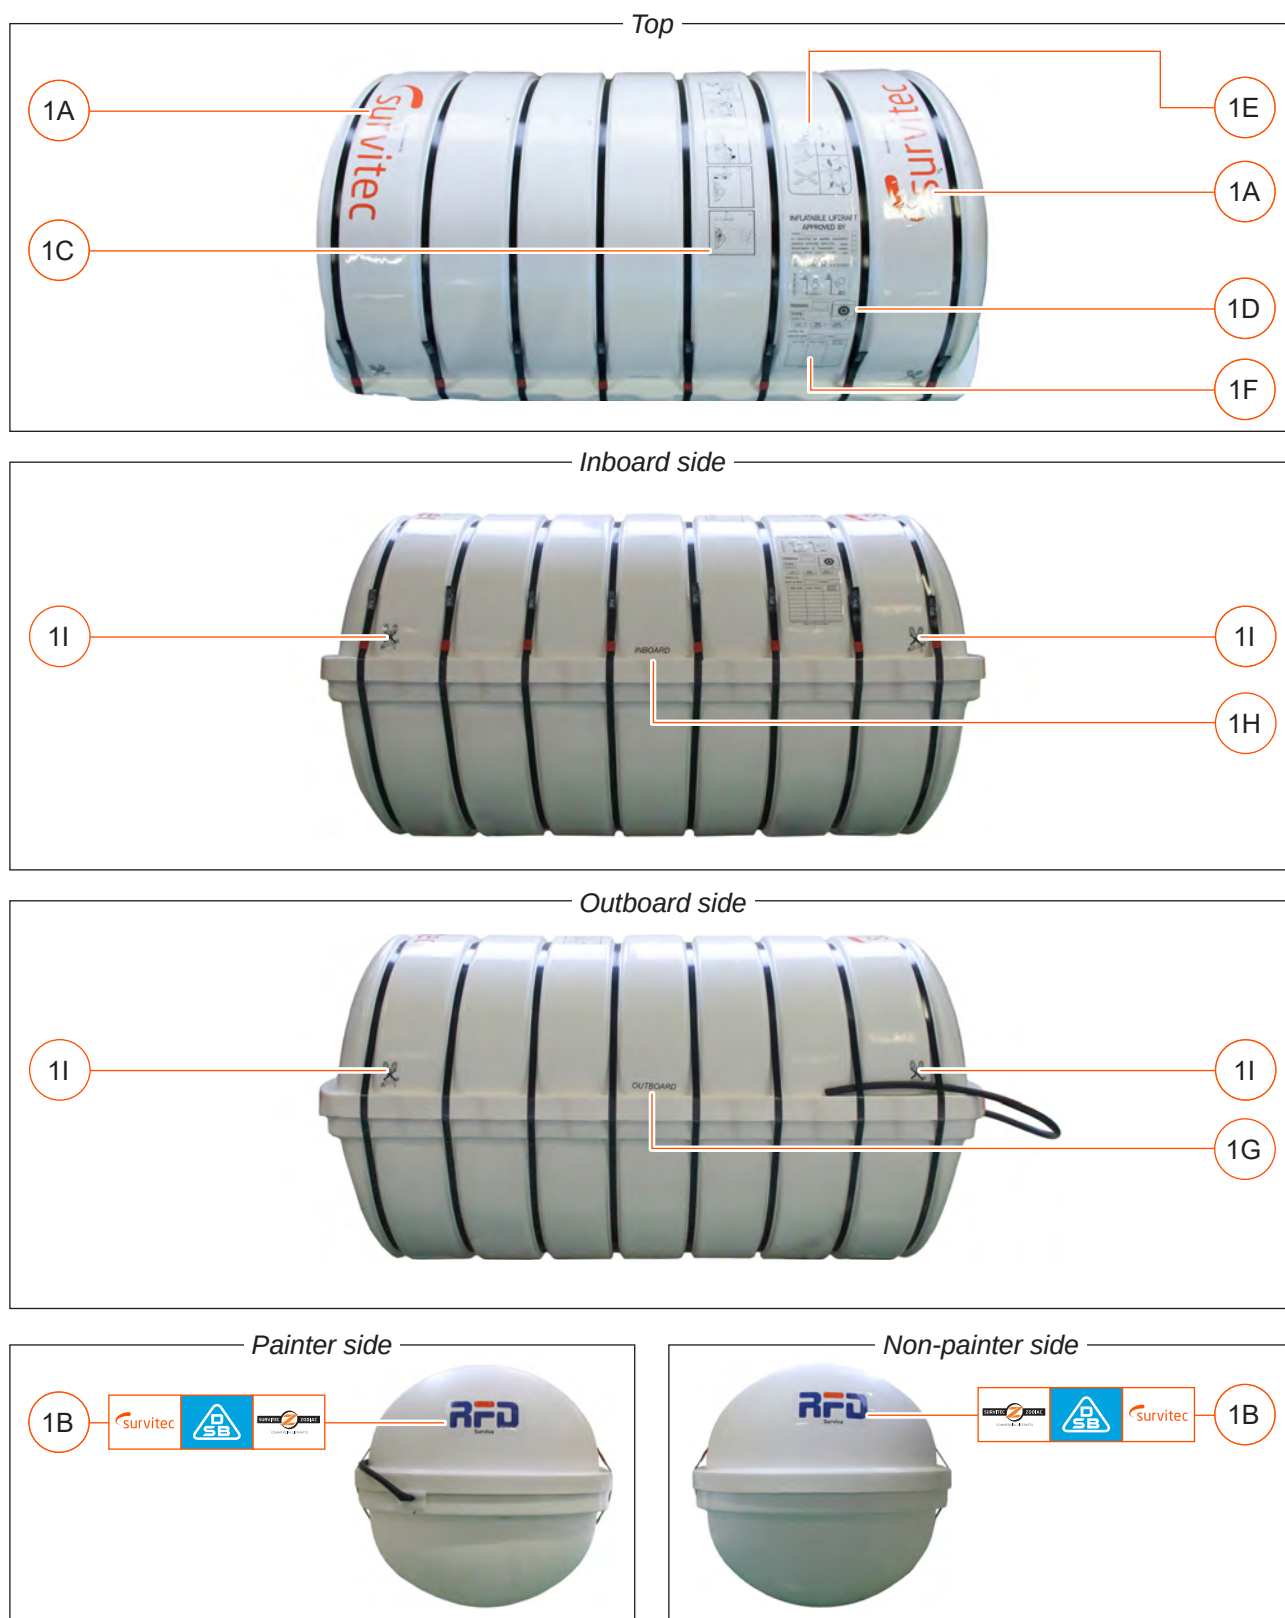

Figure 11
- Mk 14 size 17. Refer to **Figure 11** for label positions.